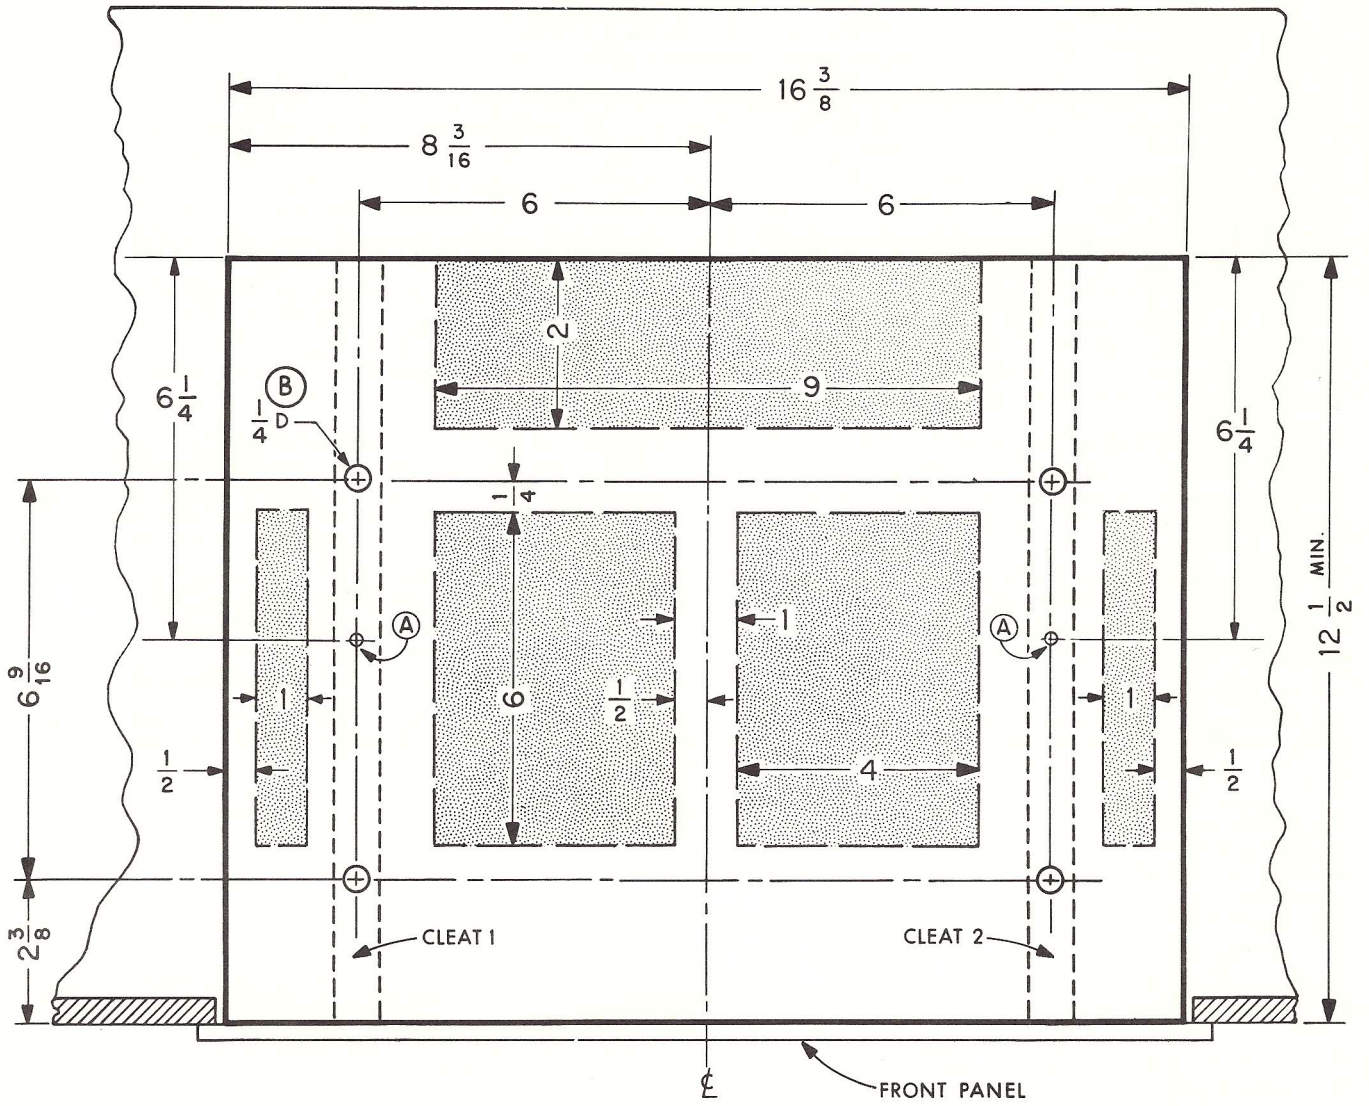

Figure 5. Top view of custom cabinet installation (horizontal mounting)
(1) Obtain a strip of wood 3/4 inch square and 20 inches long. Cut this strip in half to form two 10-inch cleats.
(2) Fasten the two cleats to the top of the mounting board with *flat-head* wood screws at the points labeled A in Figure 5. Screw heads should be countersunk below the top surfaces of the cleats. Next, locate and drill four 1/4-inch holes through the mounting board and cleats at B.
cutouts shown as shaded areas in Figure 5.